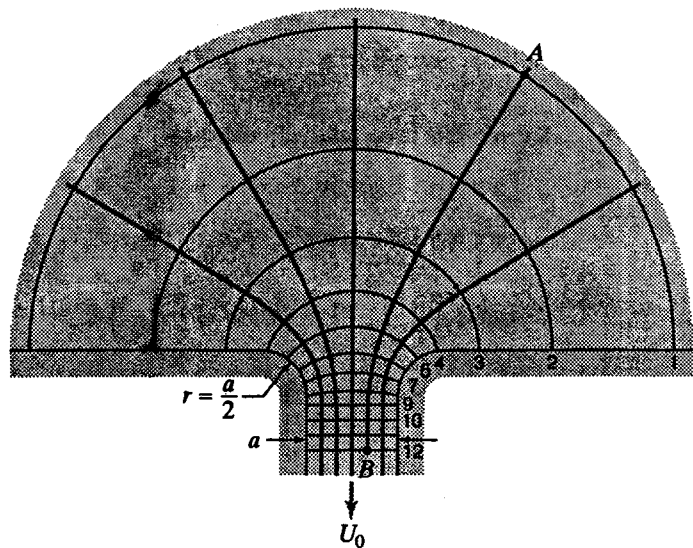

Figure X4.10.2
4.10.2 Figure X4.10.2 shows the flow net for two-dimensional flow from a rounded, long-slotted exit from a tank. If  $U_0 = 1.8 \text{ m/s}$ , what is the approximate flow velocity at A?